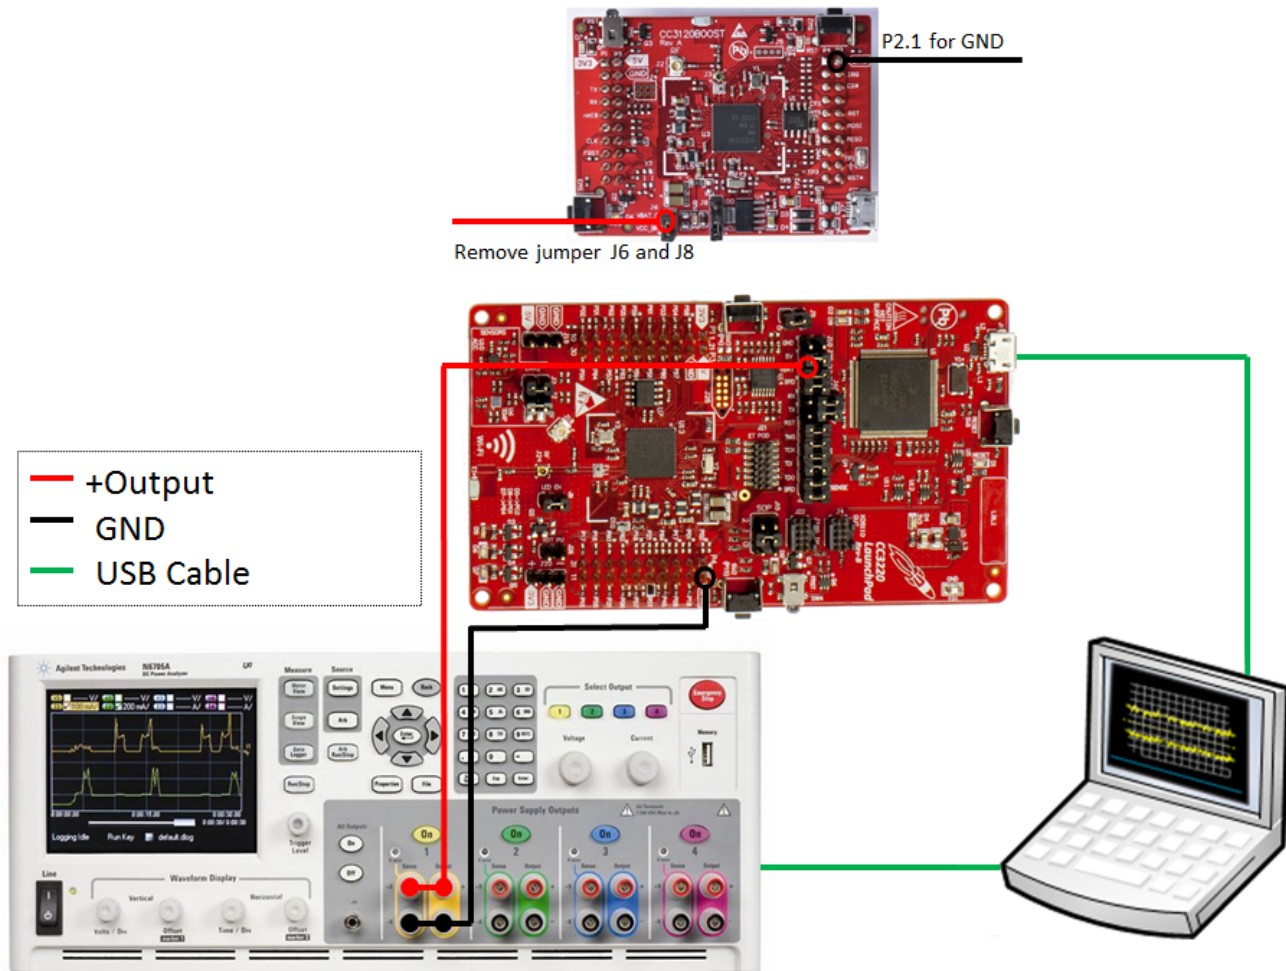

Figure 11. DC Power Analyzer Test Setup
3. Execute the code by powering on the device, and measure the current using the sourcing and measuring function of the DC Power Analyzer. For reference, Figure 11 shows the full overview.